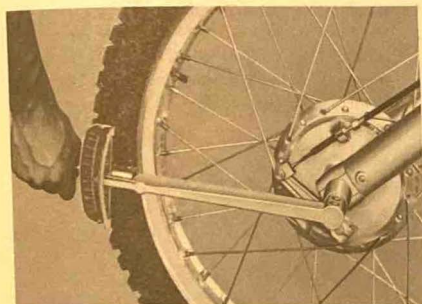

Fig. 22
7. Install the plain washer and wheel shaft nut on the wheel shaft, and tighten the nut with specified torque. (Fig. 22)